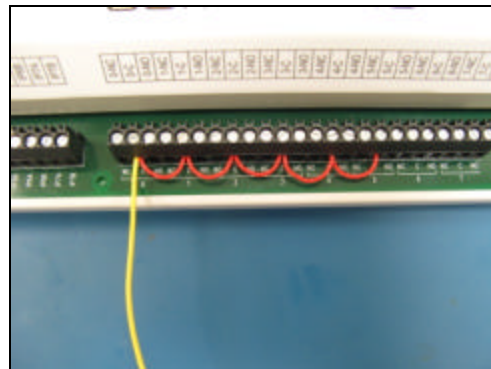

Figure 2. PDIS08 COMMON connections
- Step 3:** On the USB-DIO I/O (PDIS08), connect COMMON terminals "C" on outputs 0-4 to the Signal Tower YELLOW wire using 18-22AWG hookup wire (Figure 2). NOTE: if you desire flashing lights instead of continuous lights, connect common outputs 0-4 "C" to Signal Tower Wire BROWN instead of YELLOW. Tape-off unused YELLOW or BROWN wire.